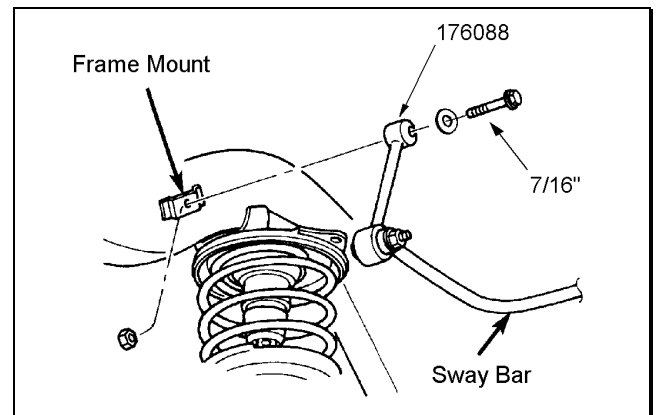

Figure 15
- 4) Attach the new end link assemblies to the frame brackets and rear sway bar with the hardware from kit 860155. See Figure 15. Tighten the end link mounting bolts to 40 ft. lbs.